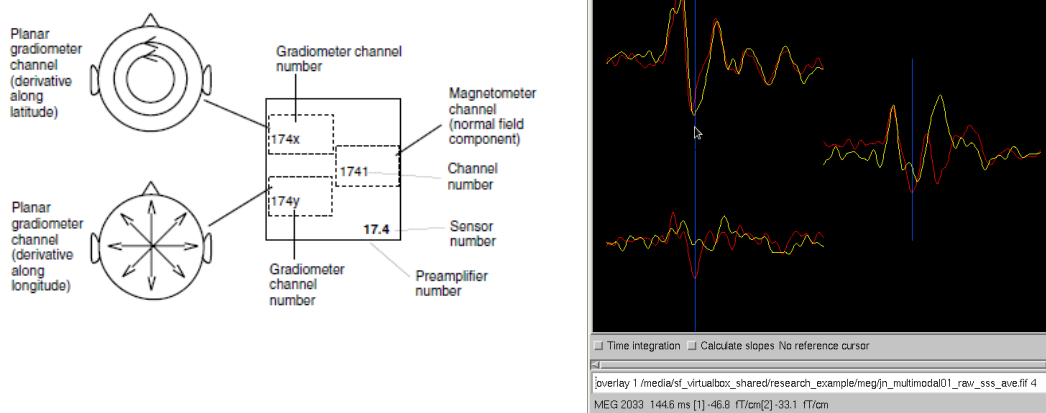

Figure 22: MEG channel naming convention and triple-sensor layout.
- On the right-hand side of a triplet (Figure 22) you see the readings of a *magnetometer*; it measures the magnetic flux penetrating the sensor. Magnetometer channel numbers end with number one (e.g. 1741).
- Display the plot channel number: Click and hold the left mouse button over any plot. The channel number is displayed at the bottom of the window (Figure 22).
- Zoom in: Select and hold the **Shift** key, then click and hold the left mouse button and drag over the area to zoom (Figure 22).